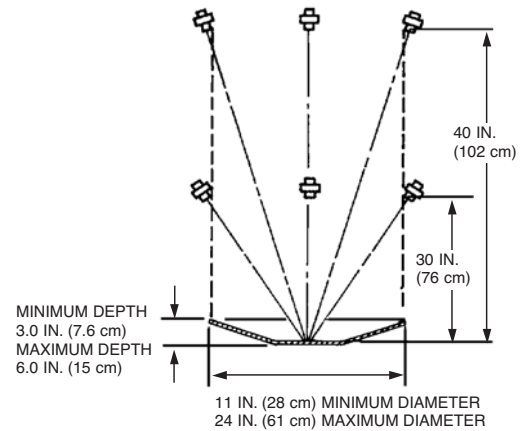

FIGURE 57
2. A 1N Nozzle, Part No. 419335, will protect a wok 11 in. (28 cm) minimum diameter up to 24 in. (61 cm) maximum diameter. The wok depth must be no less than 3 in. (8 cm) and no greater than 6 in. (15 cm). The nozzle tip is stamped with 1N indicating that this is a one-flow nozzle and must be counted as one flow number. When using this nozzle, the nozzle must be positioned anywhere along or within the perimeter of the wok, aimed at the center, 30 in. to 40 in. (76 to 102 cm) above the hazard surface, as shown in Figure 57.